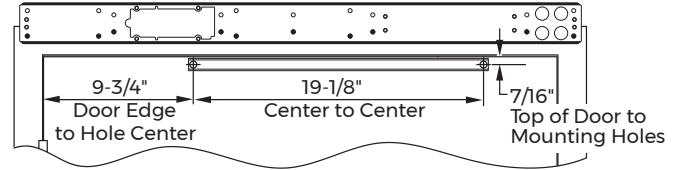

Fig. 4
1. Using the template (available for download from www.nortonrixson.com), measure and mark the first track mounting hole. (Fig. 4)